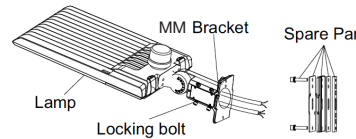

Fig. 13
1. Remove the spare parts from the SF/MM bracket (Fig. 13).